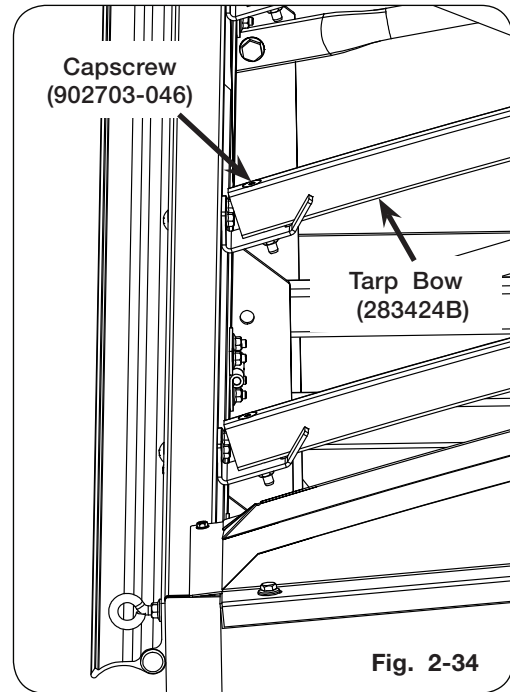

Fig. 2-34
12. Install 3/8"-16UNC x 3" capscrews (902703-046) and 3/8"-16UNC flange nuts (91263) to both sides of tarp bow (283424B). (Fig. 2-34)
**NOTE:** Ensure capscrew head (902703-046) is flush with the top of tarp bow (283424B) (Fig. 2-34).